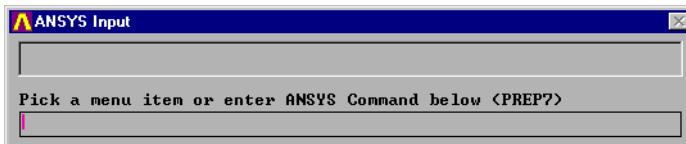

Figure 40: **ANSYS Input** window
***USE,accelman.mdl** (Figure 40)